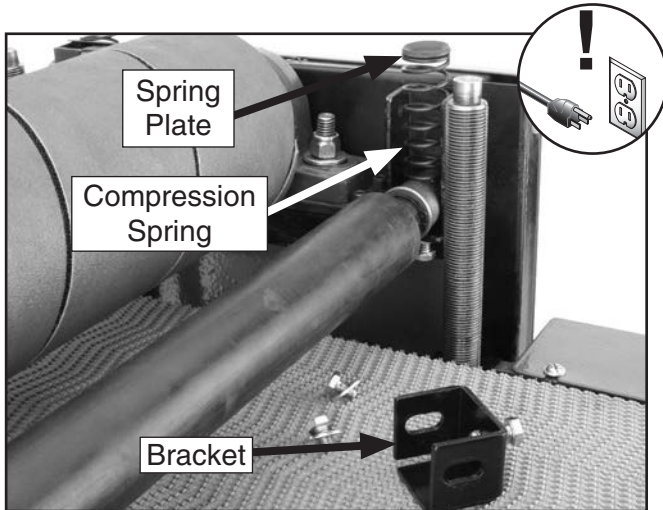

Figure 42. Rear pressure roller components.
- Remove the rear pressure roller (4 hex bolts and 4 flat washers) along with the brackets, compression springs, and spring plates shown in **Figure 42**.